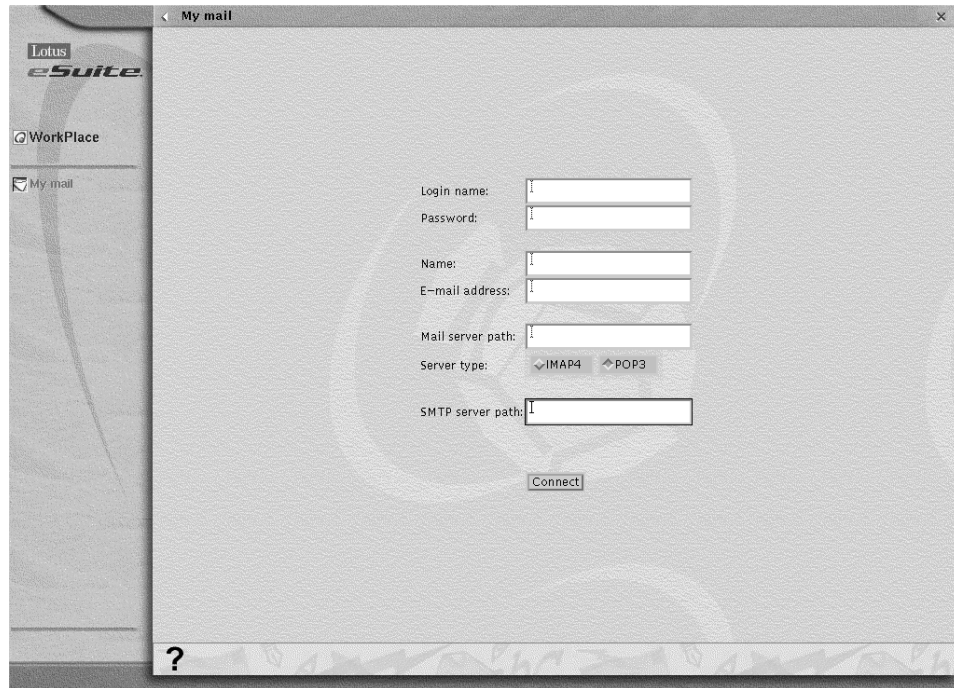

Figure 139. eSuite Mail Configuration
1. To access eSuite mail, click **My mail** under *Mailbox* in the eSuite Workplace. The following display is shown (see Figure 139 on page 232).